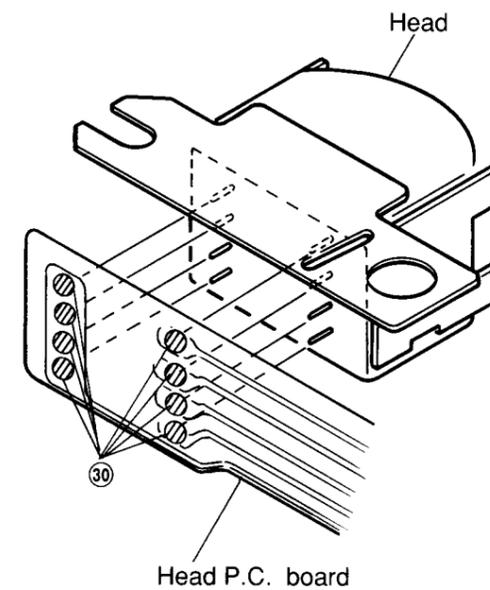

Figure 22
- (2) Remove solder ㉚ and remove the head from the head P.C. board as shown in Figure 22.
- (3) After replacement, mount the new head following the removal steps in the reverse order.